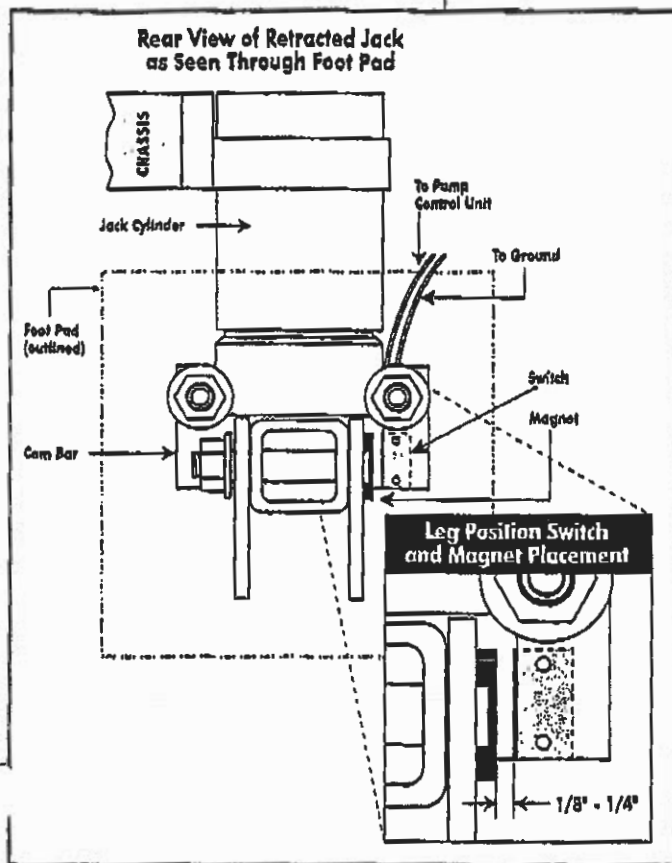

Figure 2i
- a. Check switch and magnet locations. In the leg retracted condition these should be adjacent to each other with 1/8" to 1/4" gap. If required, adjust the position of the magnet to obtain proper operation. (Fig. 2i)